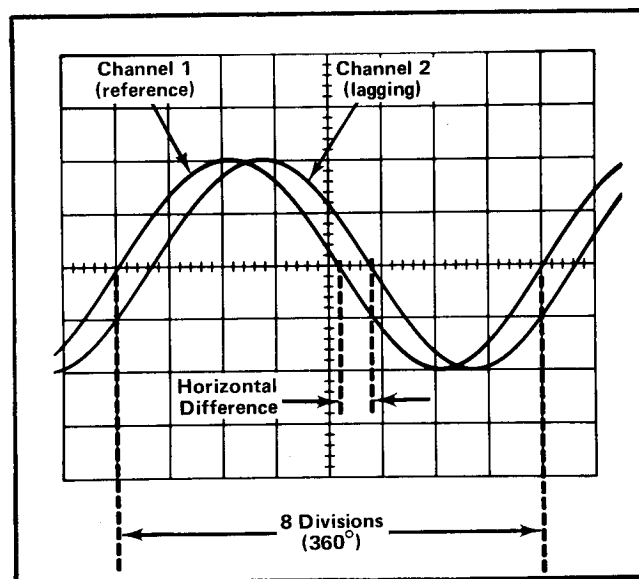
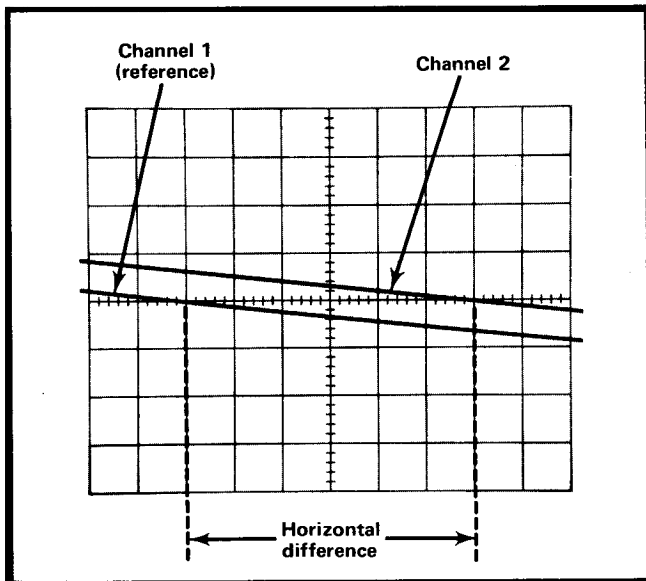

Fig. 2-4. Measuring phase difference between two signals.
Fig. 2-5. High resolution phase measurement using sweep magnifier.
8. Adjust the time-base Variable Sweep Rate until one cycle of the reference signal occupies exactly eight horizontal divisions between the second and tenth vertical lines of the graticule (see Fig. 2-4). Each division of the graticule represents 45° of the cycle ( $360^\circ \div 8 \text{ divisions} = 45^\circ/\text{division}$ ). The sweep rate can now be stated in terms of degrees as 45°/division.
EXAMPLE: Assume a horizontal difference of 0.3 division with a sweep rate of 45°/division as shown in Fig. 2-4. Using the formula:
EXAMPLE: If the sweep rate is increased 10 times by the Magnifier, the magnified sweep rate is  $45^\circ/\text{division} \div 10 = 4.5^\circ/\text{division}$ . Fig. 2-5 shows the same signals as used in Fig. 2-4 but with the Magnifier set to X10. With a horizontal difference of 3 divisions, the phase difference is: